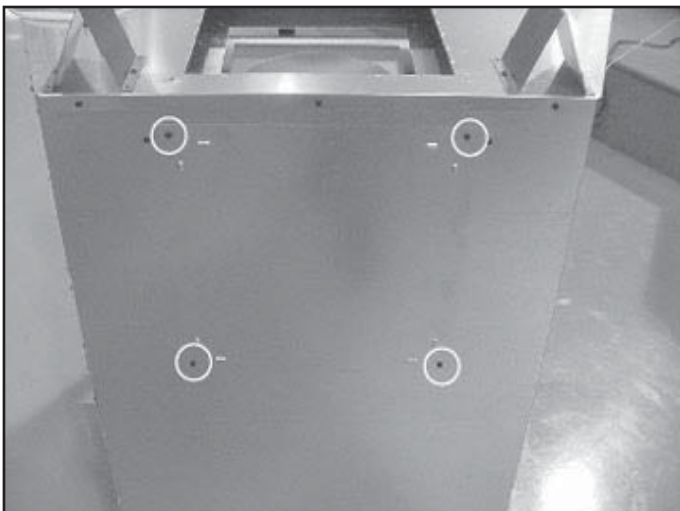
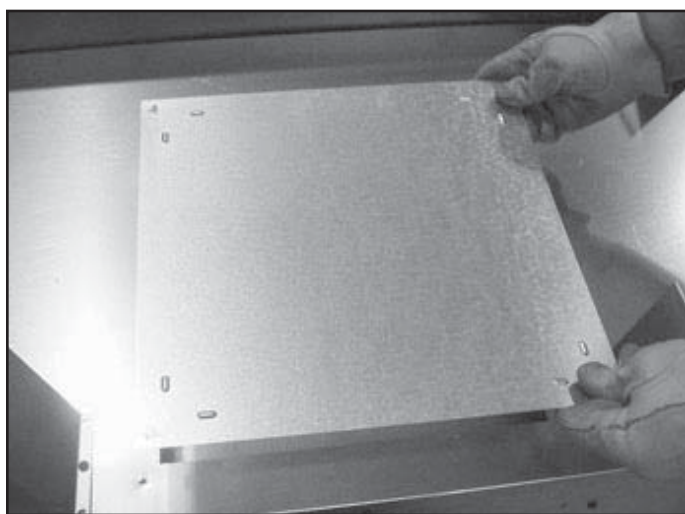
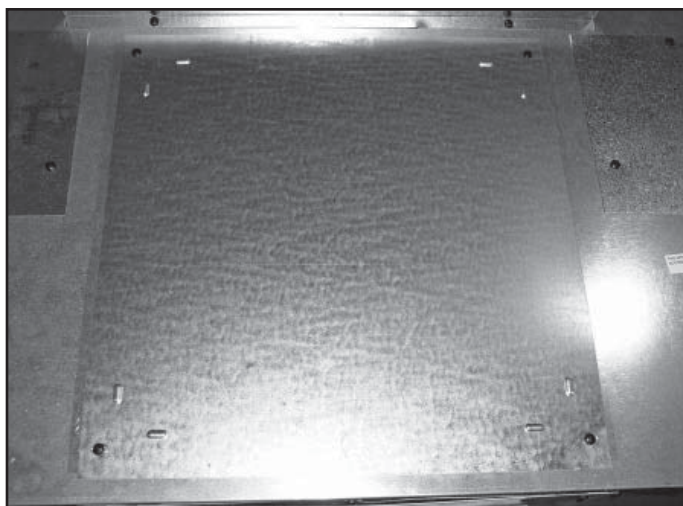

Figure 9.7 Outer Shell Cover
Figure 9.17 Place Cover Plate on Top of Appliance
Figure 9.18 Screw Cover into Place
- Remove four screws holding outer shell cover. See Figure 9.7. Remove outer shell cover and set aside.
- Locate outer shell cover removed in the sixth step (Figure 9.7). Place the cover on top of appliance. See Figure 9.17. Replace four screws to hold plate in place. See Figure 9.18.